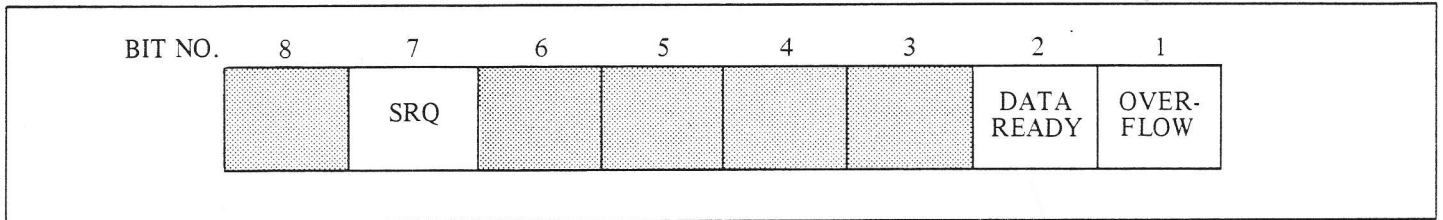

Figure 3.8 - Status Byte
3.3.8.24.2 The status byte is shown in Figure 3.8. Note that it contains 3 bits that convey specific information. Bit 1 when set to a 1 indicates that the instrument has overflowed. Bit 2 when set to the 1 state indicates that the instrument has completed a measurement and has data ready for transmission on the bus to the controller. Bit 7 indicates that the Model 9514/9515 has transmitted a service request (SRQ).